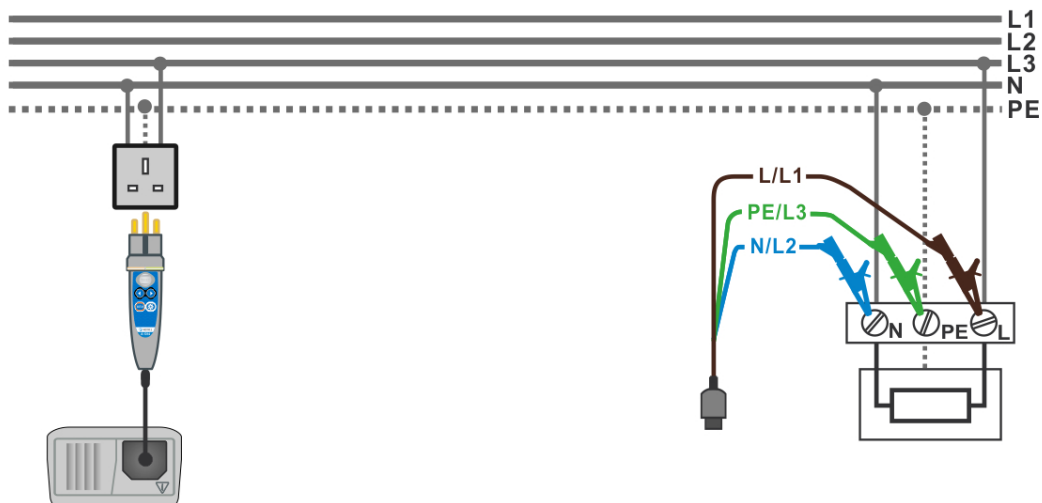

Figure 5.29: Connection of plug cable or commander and universal test cable
- ❑ **Connect** test leads to the item to be tested (see figures 5.29 and 5.22).